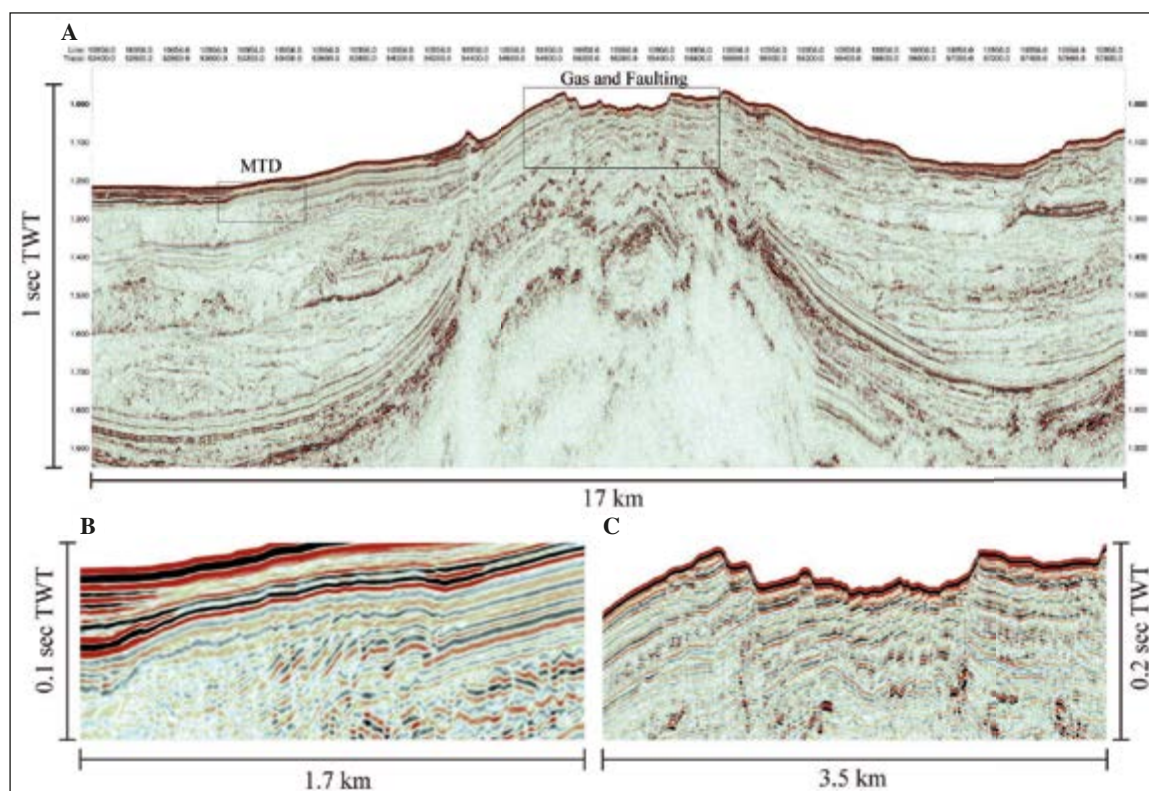
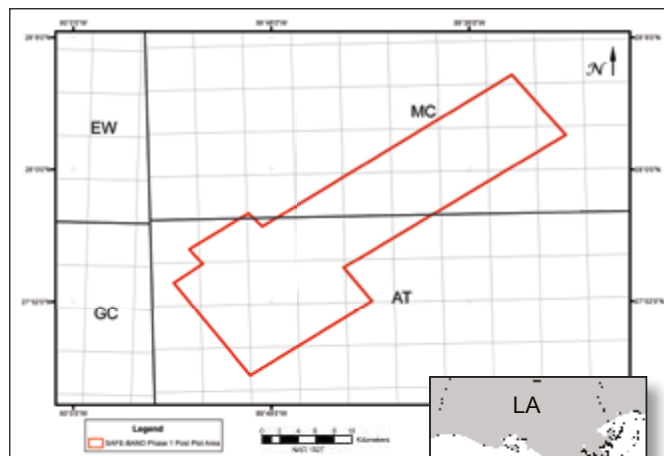

Figure 1:
Figure 2: Map indicating the post plot area of SAFE-BAND Phase 1 near the four corners area offshore Louisiana along the west flank of the Mississippi Canyon.
The Ronda Uno blocks are scattered throughout most of the offshore basins in Mexico. A vast amount of 3D seismic data now covers most of the prospective areas offshore Mexico, so future exploration will be accelerated by access to these data sets (Figure 1). There are very few wells in the deep offshore, including fewer than 10 wells in water depths greater than 1,500m, so this is almost virgin exploration territory in basins with vast petroleum potential.
Figure 1: Simplified geological map of the Mexican sector of the Gulf of Mexico, showing the location of the Ronda Uno blocks and the large amount of 3D seismic coverage.
As an example of this type of dataset, a consortium consisting of NCS SubSea, Geotrace, and Spec Partners recently conducted a regional UHR3D survey in the central Gulf of Mexico near the four corners area of Alaminos Canyon, Mississippi Canyon, Ewing Bank, and Green Canyon (Figure 2). This survey, known as SAFE-BAND, was acquired with P-Cable technology employing an 18 x 100m streamer spread with a group interval of 6.25m and a cross-line spacing of 12.5m. This configuration, totaling 288 receiver groups, yielded four-fold coverage at a shot spacing of 12.5m with a natural bin size of 3.125m x 6.25m. The data were collected with a 0.25 millisecond temporal sampling interval, and were later subsampled to a 0.5 millisecond interval during processing.
Figure 1 shows a broad-scale representation of the complex subsurface geology with blow-ups illustrating the high resolution in which mass transport deposits, gas and faulting are resolved.
Figure 3: A, B – Portions of the interpreted seafloor horizon taken from the south-west (A) and north-east (B) portions of the SAFE-BAND Phase 1 area (see Figure 2). Area A corresponds to the salt feature imaged in Figure 1 A and C. Five features are designated by letter with a corresponding profile presented below. C – Expulsion mound initiation. D – Rapid flux/mud volcanism. E – Hydrate formation and free gas. F – Exposed hydrate with nearly breaching free gas. G – Collapse feature.